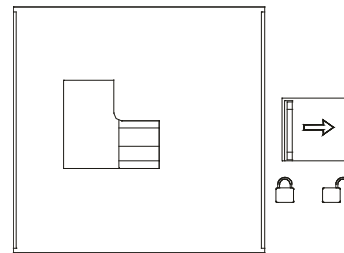

Fig. 9-6
- 4) Pull the cover plate of the maintenance switch leftward to close it (see Fig. 9-6).